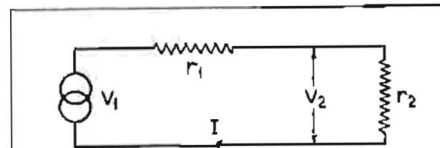
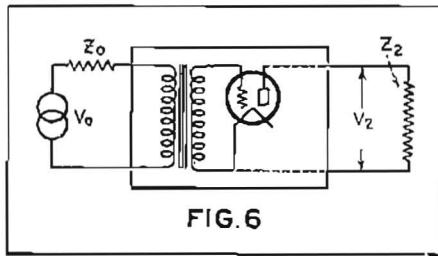
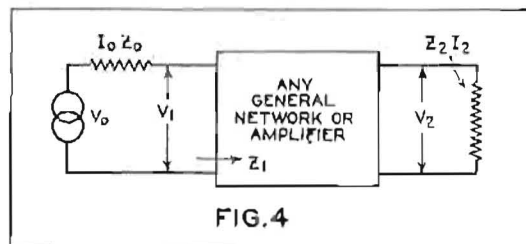

FIG. 1
FIG. 6
FIG. 4
The effect of the ideal transformer can be more easily visualized by first considering the simple series circuit of Fig. 1. This shows a generator of voltage V_1 and internal resistance r_1 , delivering power to a load r_2 . The current in the load and the power delivered to it are given by
to the load being P_2 on inserting an ideal transformer the power in the load will increase to P_{2max} . The loss in the circuit of Fig. 1, expressed in decibels, is given by (6) and is known as the transformer loss. This is the loss which is due to the impedance "mis-match" between the source of power and the load. The expression (3), from which (6) was derived, is the square of what is known as the reflection factor. Thus, the reflection factor existing between the two impedances r_1 and r_2 , is
can be applied to a complicated section of a transmission line, or to an amplifier. So far we have considered only a simple series circuit such as shown in Fig. 1. Now consider Fig. 4. A generator whose voltage is V_0 and whose internal impedance is Z_0 , feeds into a network whose input impedance is Z_1 . This network delivers power to a load impedance Z_2 . The voltage at the input of the network is V_1 , and at the
For the particular case where the network of Fig. 4 is an amplifier, the input to the amplifier is usually a transformer (see Fig. 6). Moreover,